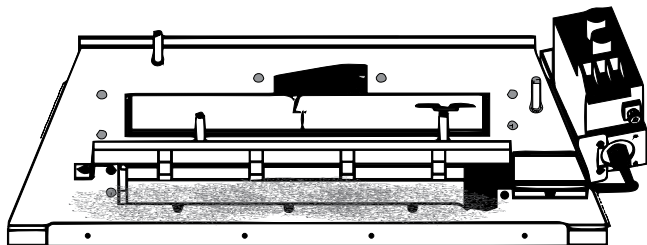

Figure 5.1 - Installing Rock Wool
1. Before installing logs, place rock wool in front of the grate. Loosely apply nickel size pieces to allow the gas to flow through for proper burn and not to be obstructed. Failure to do so would cause a higher level of CARBON MONOXIDE. See Figure 5.1.